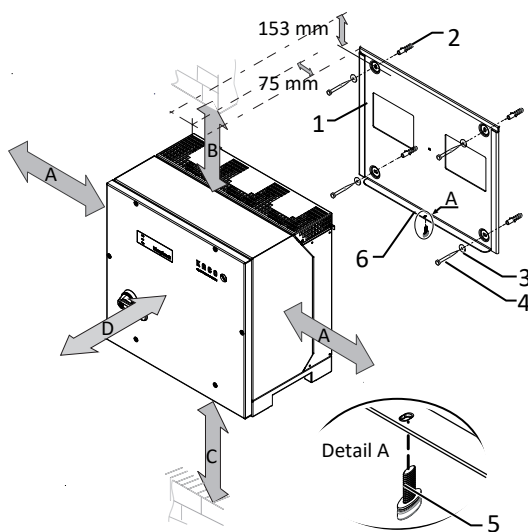

Fig. 11: Minimum clearances for wall mounting
3. Insert the screw provided into the lug of the mount and [✂T30 / ⚙ 2 Nm] ([See figure 11 [► Page 17]]).